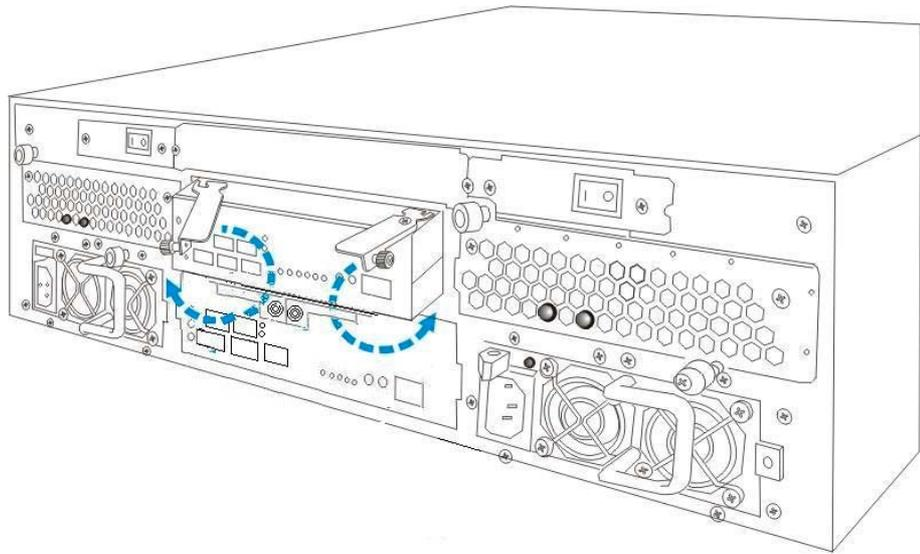

Figure 5-2: Open the Ejector Handles.
Step 4. After both these screws have been loosened, gently *open the ejector handles*. When the ejector handles are opened, the controller module will automatically be eased out of the controller module bay in the subsystem. (See *Figure 5-2*)